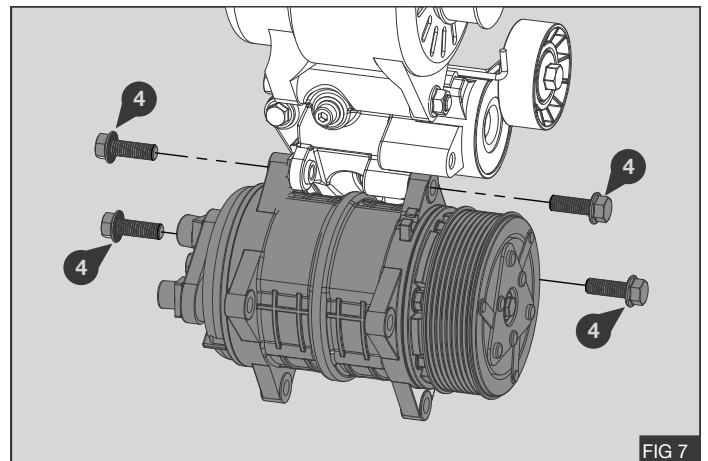

FIG 7
1. Secure the compressor to the compressor mount bracket (1) using bolts (4) - Fig 7
2. Torque bolts (4) to 58 Nm / 43 Lb ft